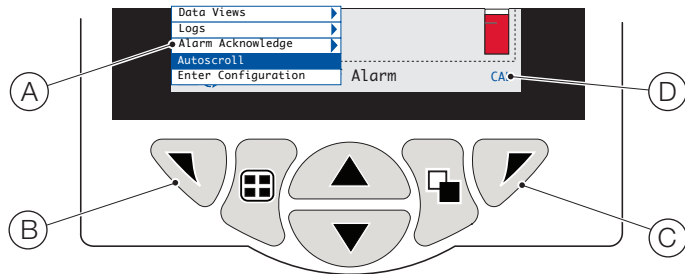

Fig. 25 Operator menus
The transmitter has 4 modes of operation – all modes are accessed from the *Operator* menu – see Fig. 25:
Referring to Fig. 25, *Operator* menus (A) are accessed from any *Operating*, *View* or *Log* page by pressing the ∇ key (B).